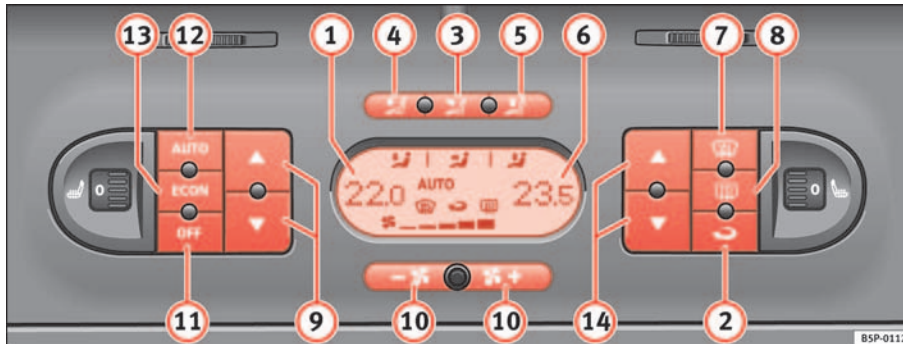

Fig. 128 On the dash panel: 2C Climatronic controls
- To enter manual mode, press one of the buttons ⇒ fig. 128 (3) to
(5), **ECON** or press the airflow control (10). The symbol **AUTO** will disappear from the display. ▶
- Press the button  ⇒ page 156, fig. 128  to switch air recirculation mode on or off. It is switched on if the following symbol appears in the display .